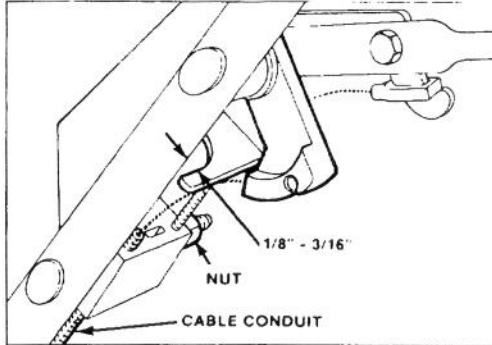

Figure 24
2. **CHECK ADJUSTMENT** (Fig. 24) — Move control bar toward handle until slack in wire is removed. Gap between brake lever and handle must be $1/8'' - 3/16''$. See step 3 for adjustment.
3. **ADJUST CABLE CONDUIT** (Fig. 24) — Loosen nut on cable bracket. Insert $1/8'' - 3/16''$ object between brake lever and handle. Pull down on cable conduit until all slack is removed from wire. Then tighten nut.